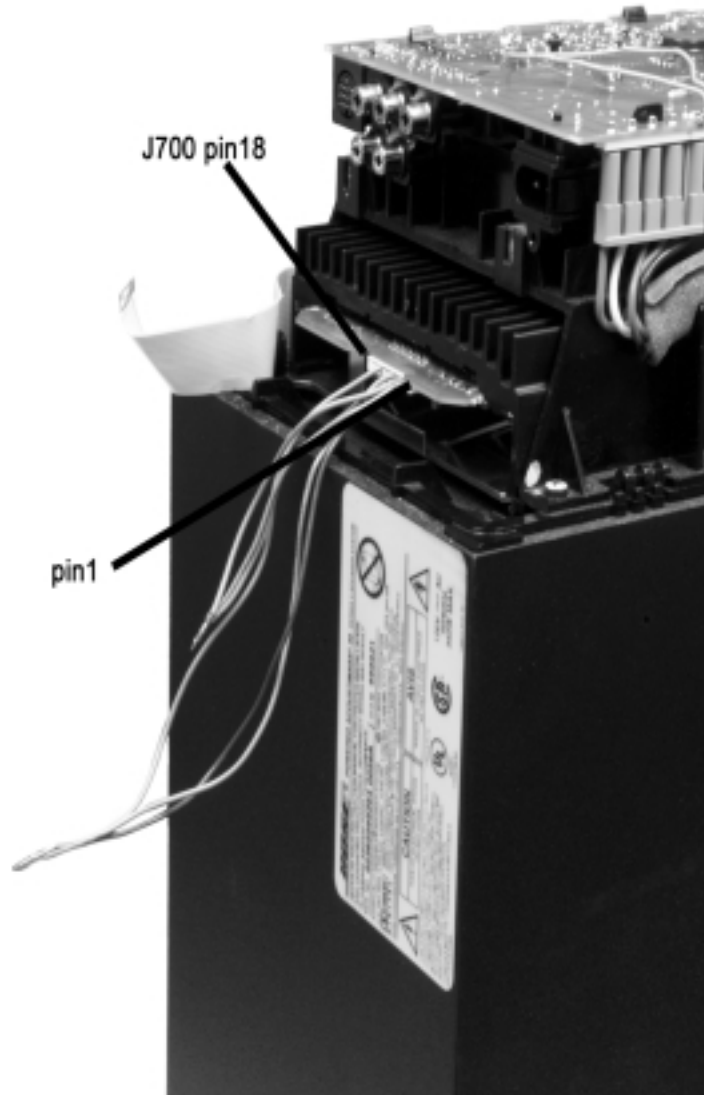

Figure 4. Input Wire Connection View at J700
- 2.** Connect individual 22 AWG, solid core wires to connector J700 at the L/R/C/LS/RS output jack. This is the location where the white ribbon cable was connected. Connect the 8-wire test cable (see Figure 2) to the 8-wire gray cable coming from the amplifier PCB. Refer to Figure 4 and the Input Connector Table on page 11 for the following instructions. Connect a wire to pins 2, 3 and 4 of the connector J700. These are the mute lines used for un-muting the amplifier outputs. Connect individual wires to pins 12 (right channel), 10 (left channel), 9 (center channel), 8 (bass channel), 7 (left surround) and 6 (right surround). Leave the woofer connector where it is. You should connect the wires one channel at a time. Connect a single wire to pin 11 for a signal ground and connect a jumper wire from the audio signal ground to the shield on the DSP PCB.